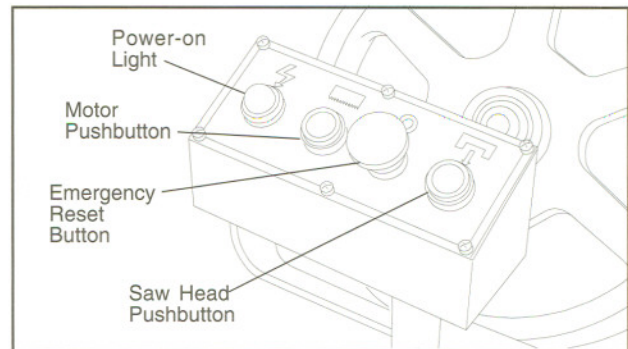

Figure 3: Control panel
3. To adjust the feed rate, adjust the feed rate control valve knob on top of the saw head (see figure 3).